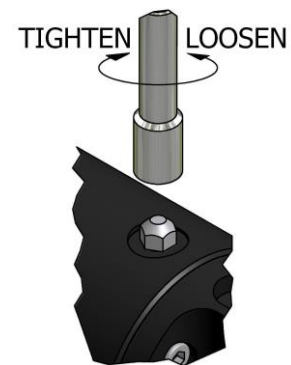

Figure .6
- a. Unscrew the Needle Regulation Nut Blocking Screw by turning it anti-clockwise as show the **Figure .6**.